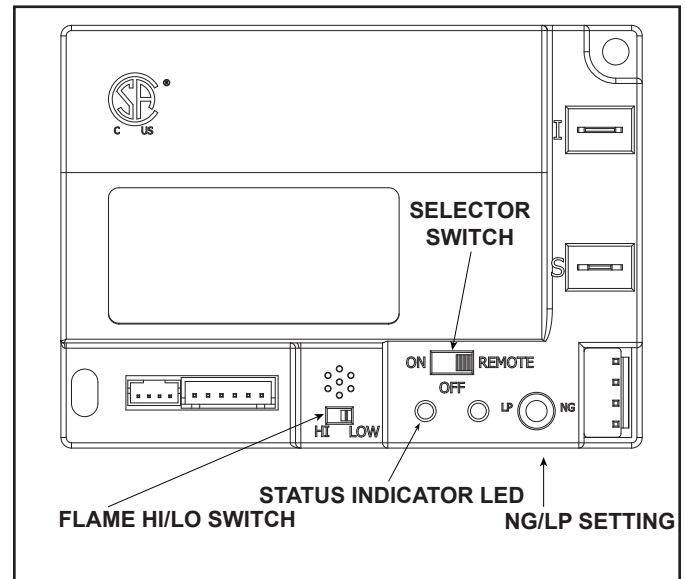

Figure 2.4 Control Module
1. The control module has an ON/OFF/REMOTE selector switch that must be set. See Figure 2.4.
2. If using a wired wall switch with the module in REMOTE mode, the flame output can be adjusted with the HI/LO selector switch on the module. See Figure 2.4. Note that the flame HI/LO selector switch will become inactive once an optional remote control (RC200/RC300) is programmed to the control module. Note that the control module will always ignite the fireplace on HI and remain so for the initial 10 seconds of operation. If the HI/LO is switched to the LO position, the flame output will automatically drop to the lowest setting after the flame has been established for 10 sec. After this 10 second period, the flame can be adjusted from HI to LO with the switch.
- Locate the module selector switch. (See Figure 2.4).
- Wait five (5) minutes to allow possible accumulated gas to clear.